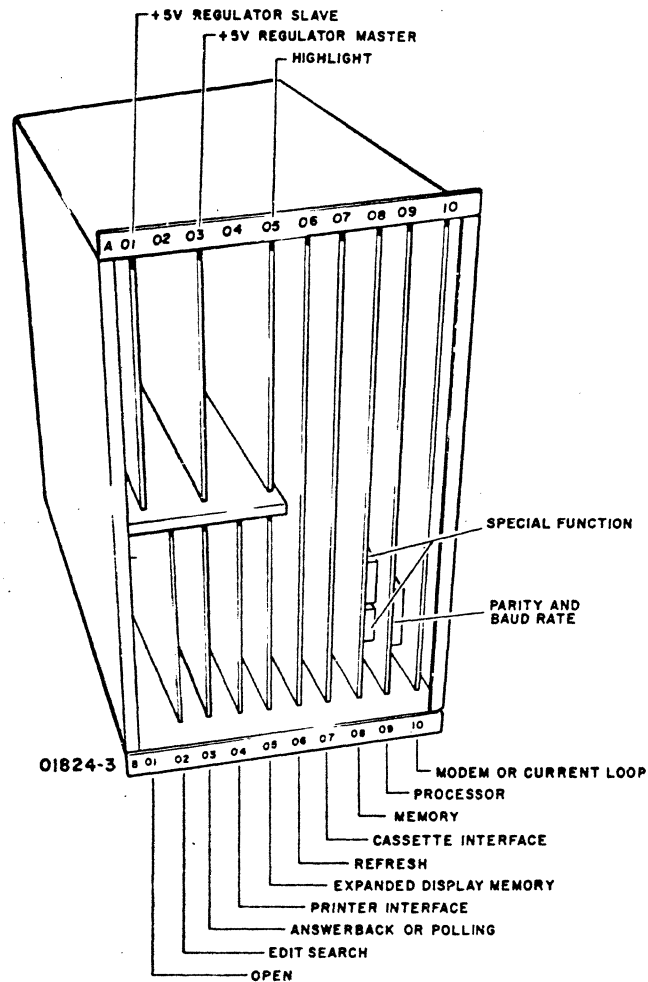

Figure 4-3. Logic Module Assembly/Card Rack
All options, features, and logic are contained in the logic module card rack. The basic logic includes a processor board (slot 09), a memory board (08), a refresh board (06), and a +5-vdc regulator board (03). Other slots in the card rack are reserved for other options and features (see figure 4-3).